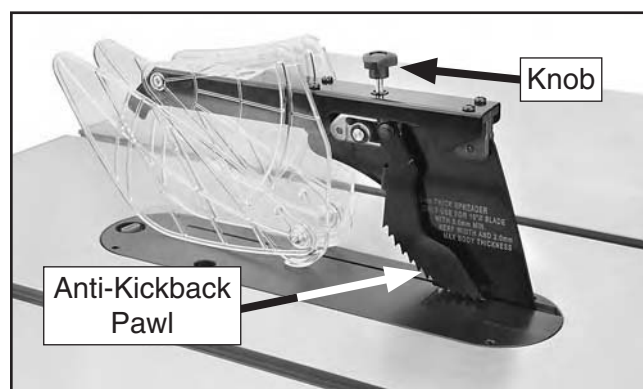

Figure 50. Example of pawls in resting position.
To work properly, the pawls must return to their resting position after pivoting, as shown in **Figure 50**.
1. Loosen the knob on top of the spreader (see **Figure 50** on **Page 35**) several turns, then remove the blade guard assembly.